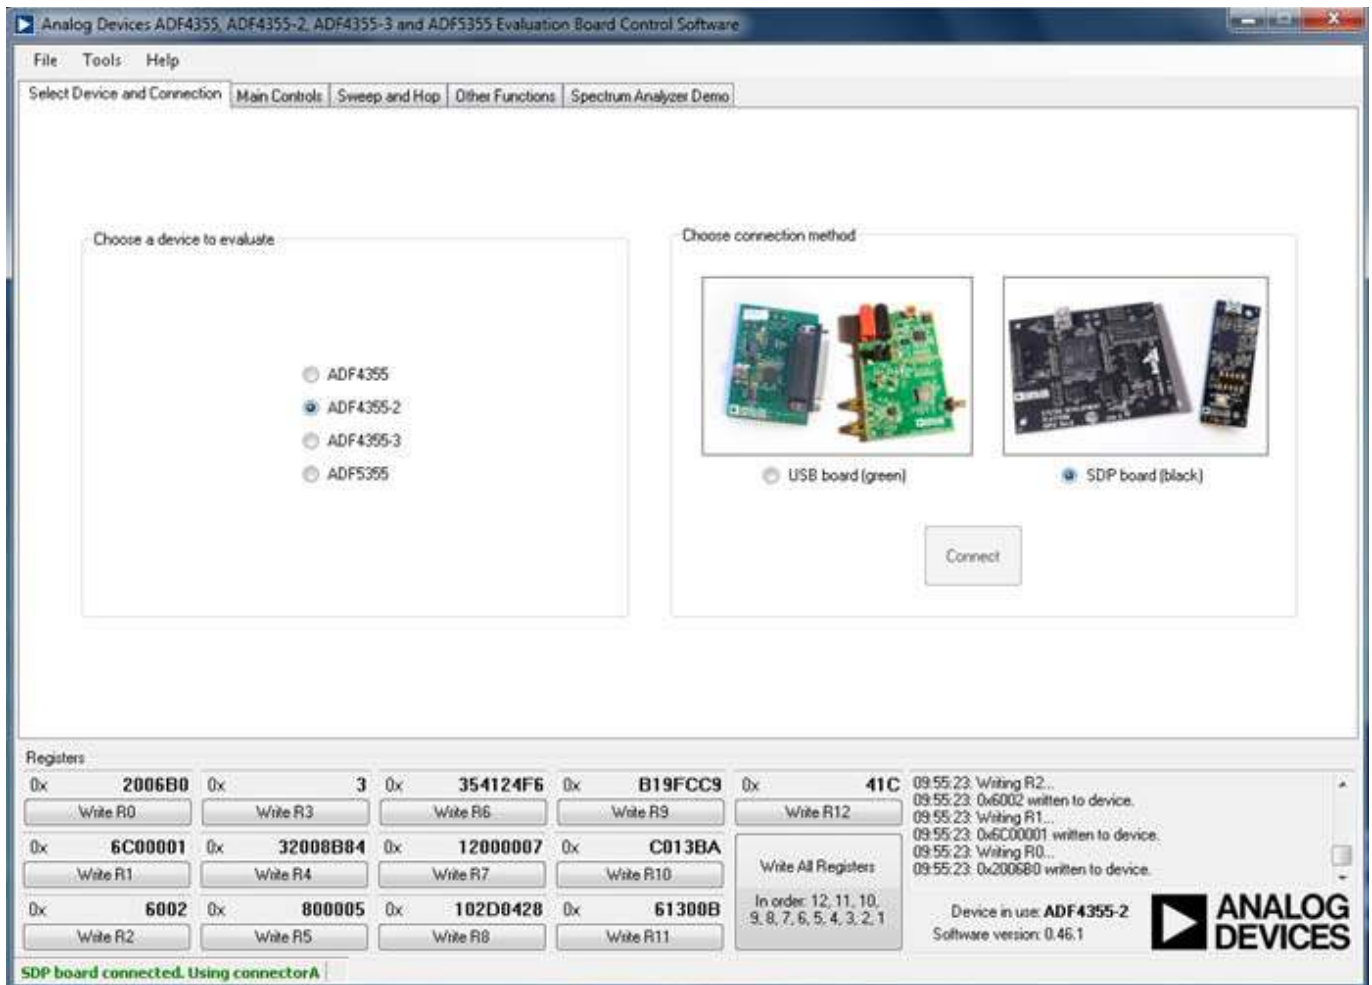

Figure 2. Software Front Panel Display—Select Device and Connection
2. On the **Select Device and Connection** tab, choose **ADF4355-2** and **SDP board (black)**, and then click **Connect** (see Figure 2).
8. Select **ADF4355-2** and **SDP board (black)** in the **Select Device and Connection** tab of the software front panel display window (see Figure 2).